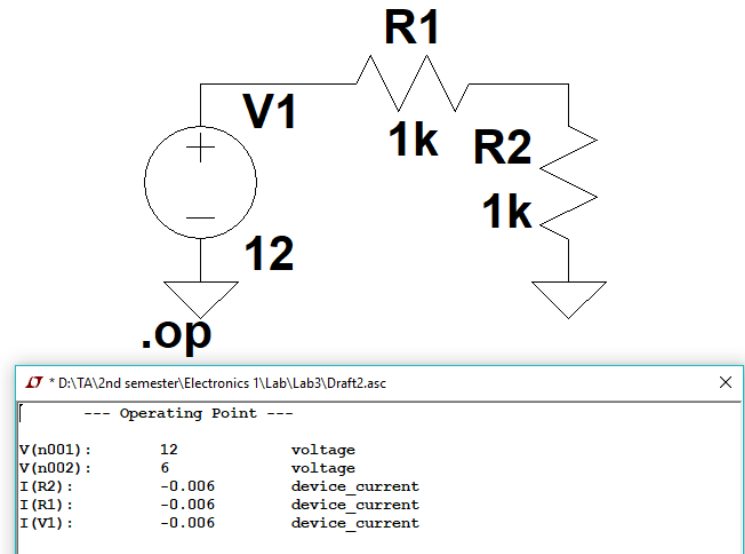

Figure 14 Dc values for electric circuit
5. A simulation showing only the DC operating points as shown in Figure 14.